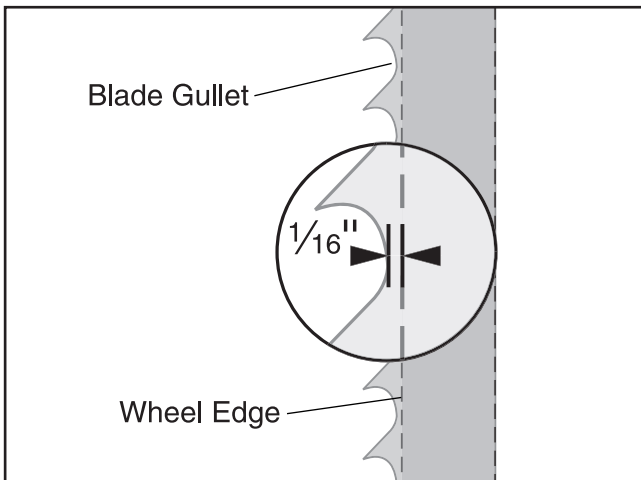

Figure 21. Illustration of proper blade position.
- Position the blade on the wheels so the tooth gullet is approximately $\frac{1}{16}$ " over the edge of the wheel as illustrated in **Figure 21**.